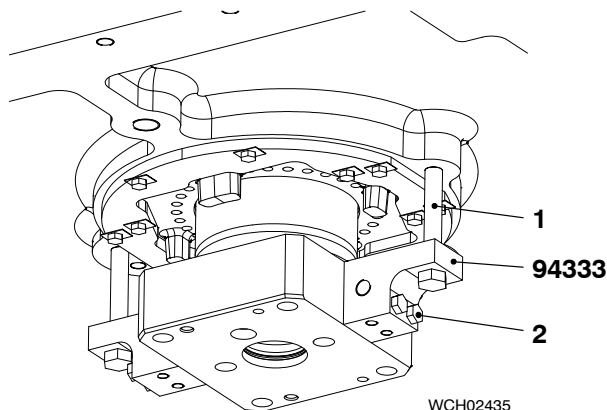

Fig. 2
- 6) If necessary, put oil on the two bolts (1, Fig. 2)
- 7) Install the two holders (94333) with the four bolts (2) to the piston rod foot.
- 8) Torque the four bolts (2) to 200 Nm.
- 9) Tighten the two bolts (2).